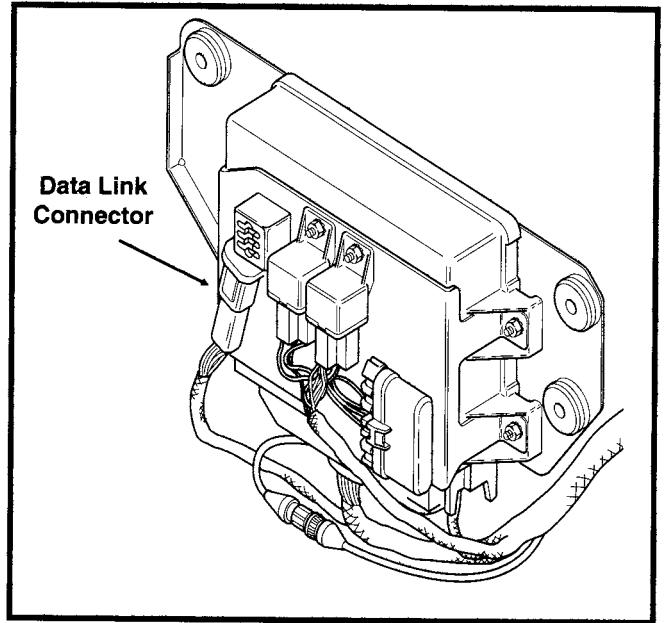

Figure 89. Electrical Bracket Assembly
3. Note the Data Link connector (pin side of 4-place Deutsch) on the front panel of the electrical bracket (see Figure 89). Push connector up to disengage small end of slot on attachment clip from T-stud on bracket. Lift connector off T-stud.